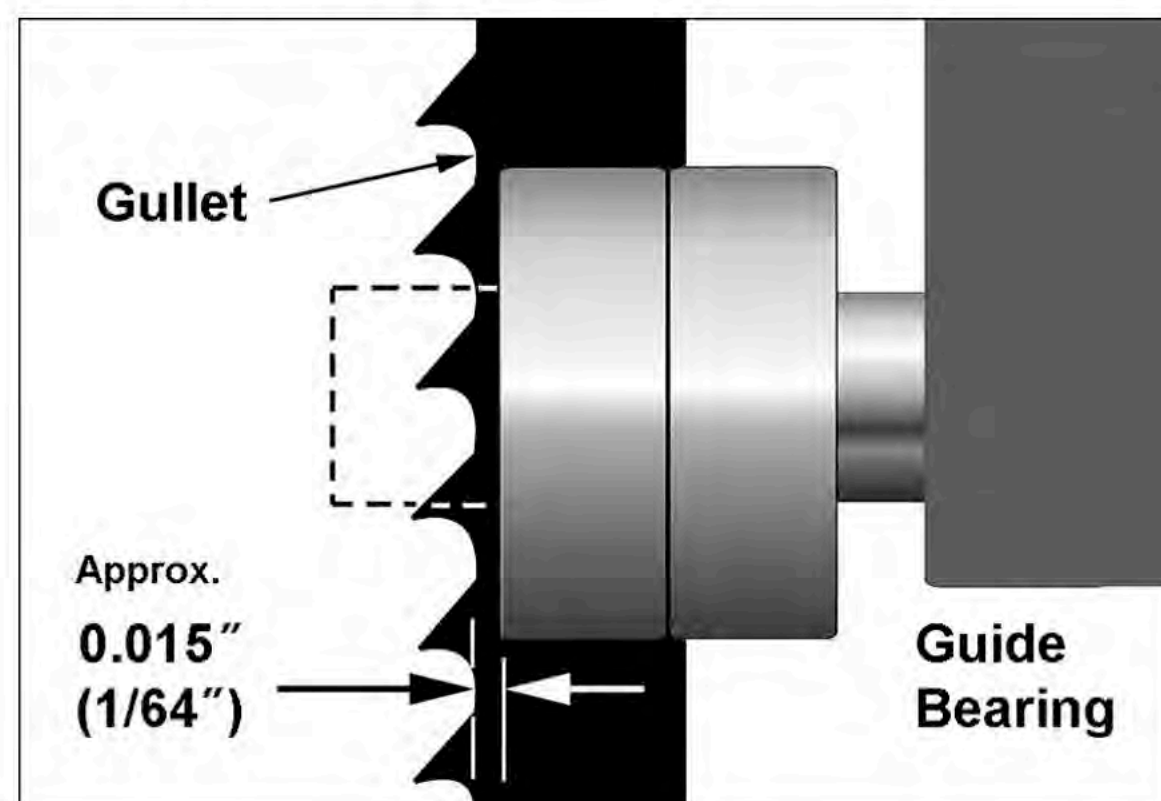

Figure 7-16
5. Slide entire guide bracket until front of guide bearings are about 0.015" (1/64") behind the blade's gullet (curved area at base of tooth). See Figure 7-16.